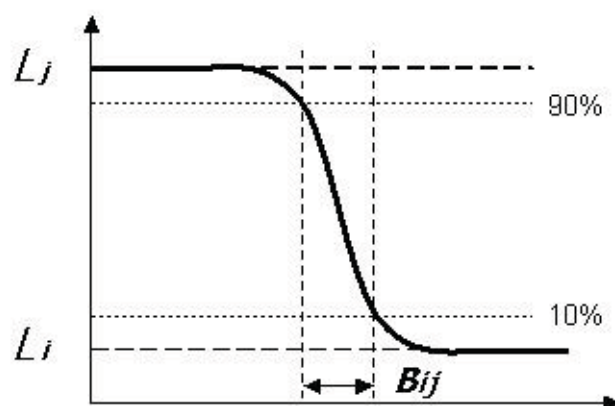

FIG. 4 MPRT
5. MPRT is defined as the 10% to 90% blur-edge width Bij(pixels) and scroll speed U(pixels/frame) at the moving picture. For more information, see FIG. 4